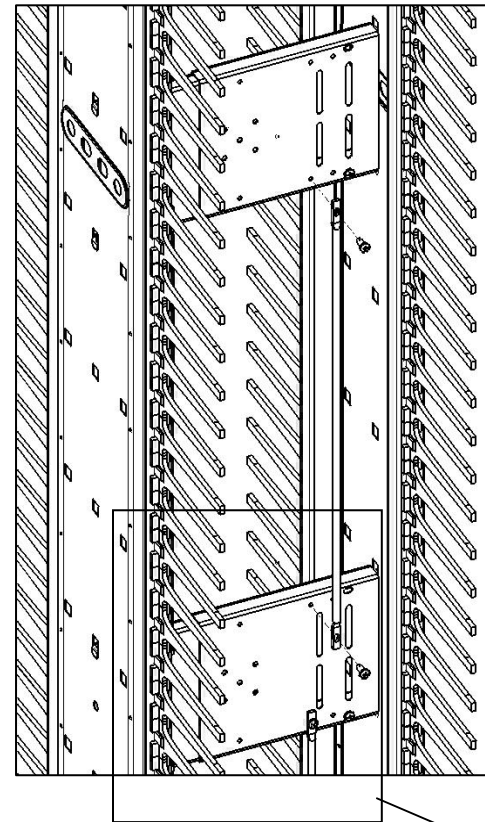

FIGURE 1
5. Mount a single Lashing Bar using two 10-32 x ½" screws as shown in Figures 1 and 2.